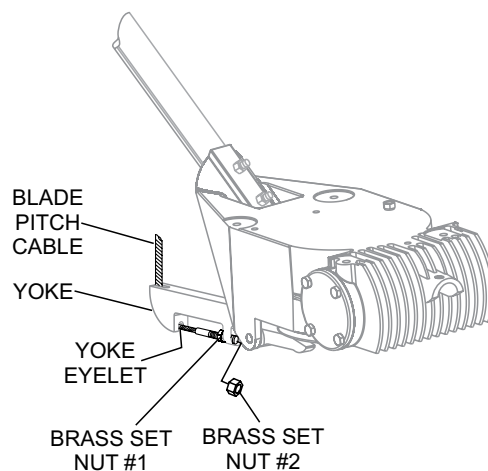

Figure 7. Pitch Cable Yoke Attachment
4. Insert the cable end through the yoke eyelet (Figure 7). Tighten brass set nut #1 by hand to remove all slack from the cable.